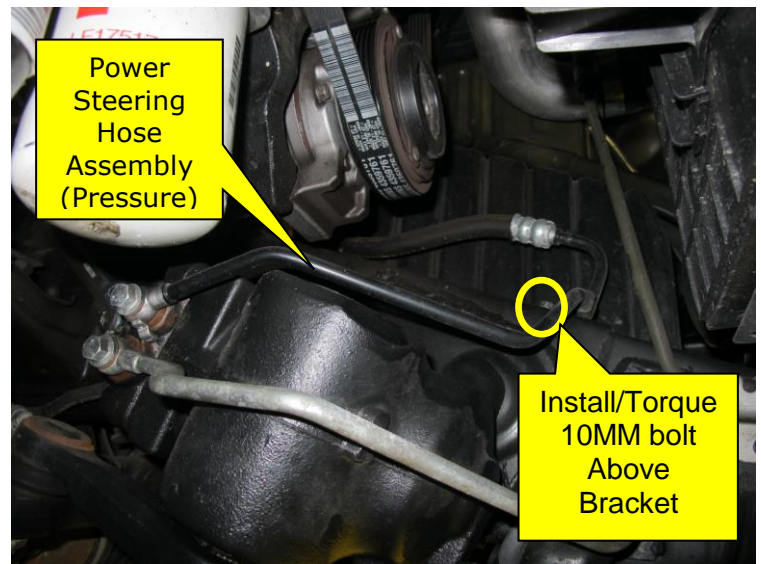

Figure 9
8. Reinstall Power Steering Hose Assembly (Pressure) bracket bolt (Figure 9).